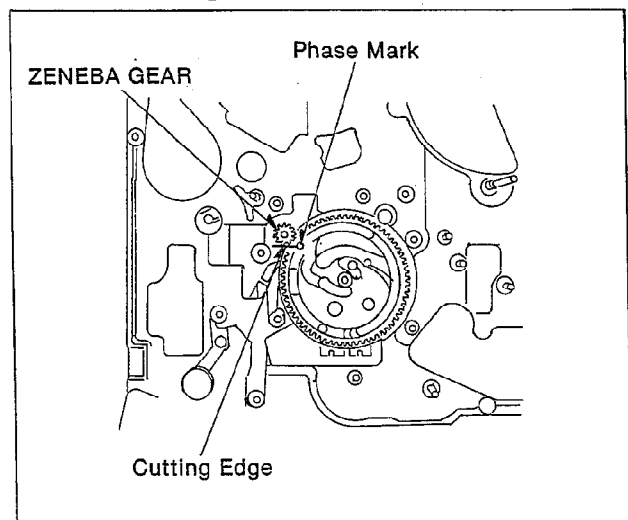

Fig. M4
- (2). Install the Zeneba Gear so that cutting edge of the Zeneba Gear face to the Cam Gear as shown in Fig.M4.